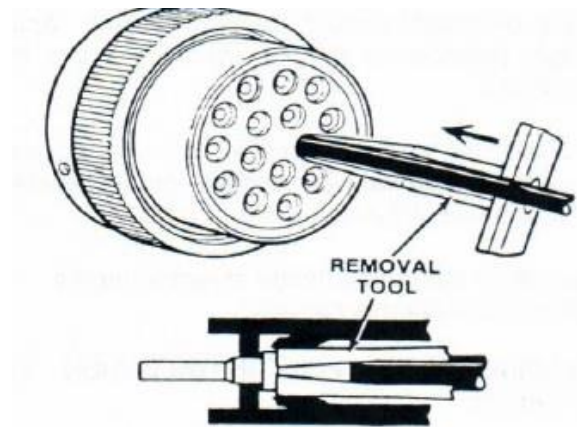

Figure 202
4. Carefully slide the wire contact and removal tool straight out of the connector. Figure 202